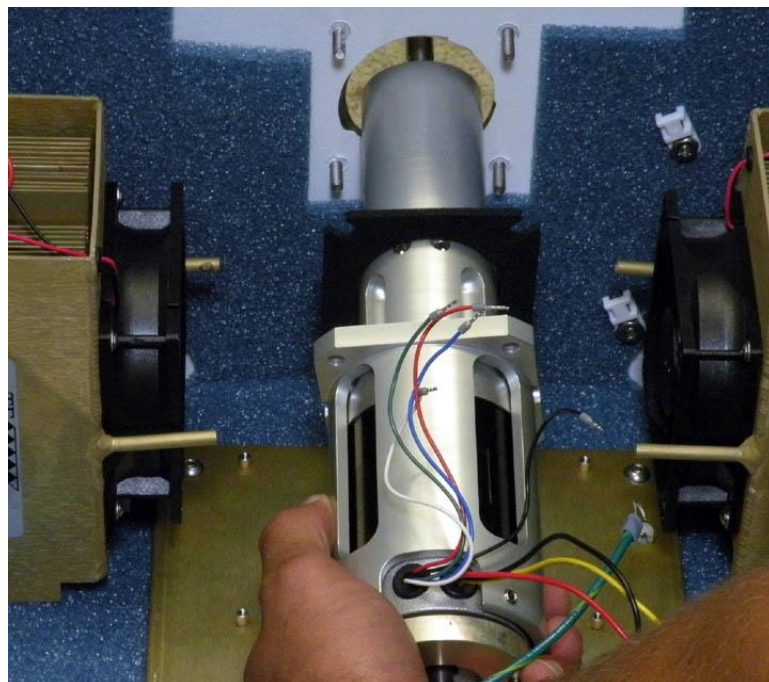

Figure 109. Sliding motor assembly and gasket
5. Slide the motor assembly and the gasket down and out (Figure 109).